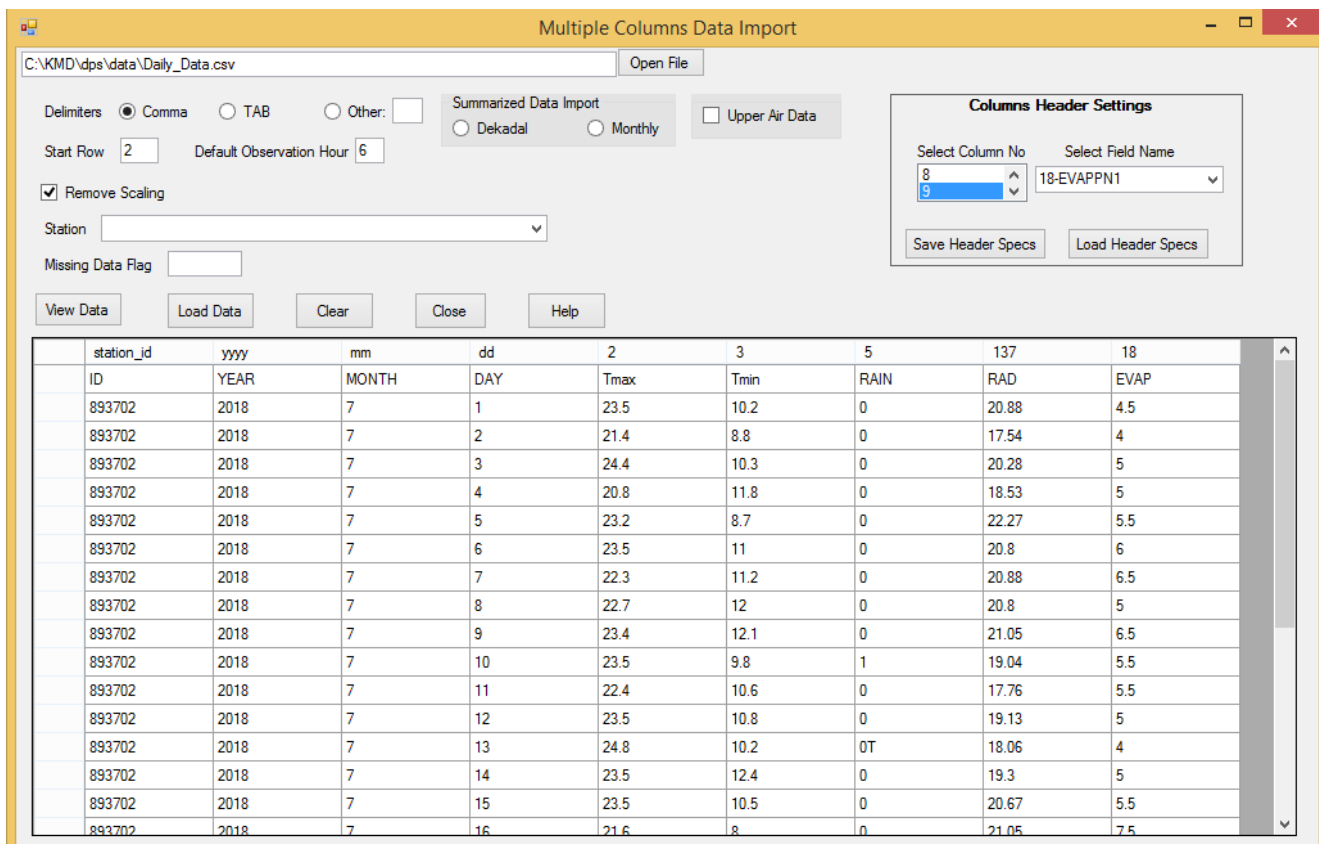

Figure 64: Multiple column data Import with column headers specification
- (iii) If the header specs had earlier been saved in a file then click “**Load Header Specs**” and select the folder that contains that file. If correctly specified, the columns in the displayed data table are labelled automatically as shown in *Figure 64*,